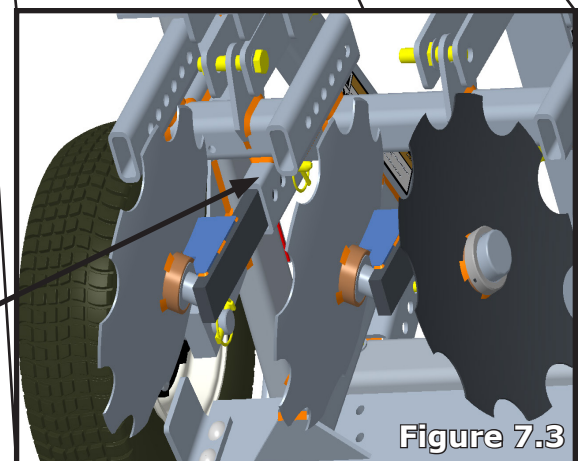

Figure 7.3
- Recommend pinning hole in disc shank, farthest from disc into 3rd hole from the bottom of the pocket. (**Figure 7.3**)
- The disc shanks must be slid into the pockets with the shanks toward the inside of the unit and the discs facing outwards so the discs will push the soil outward. (**Figure 7.3**)